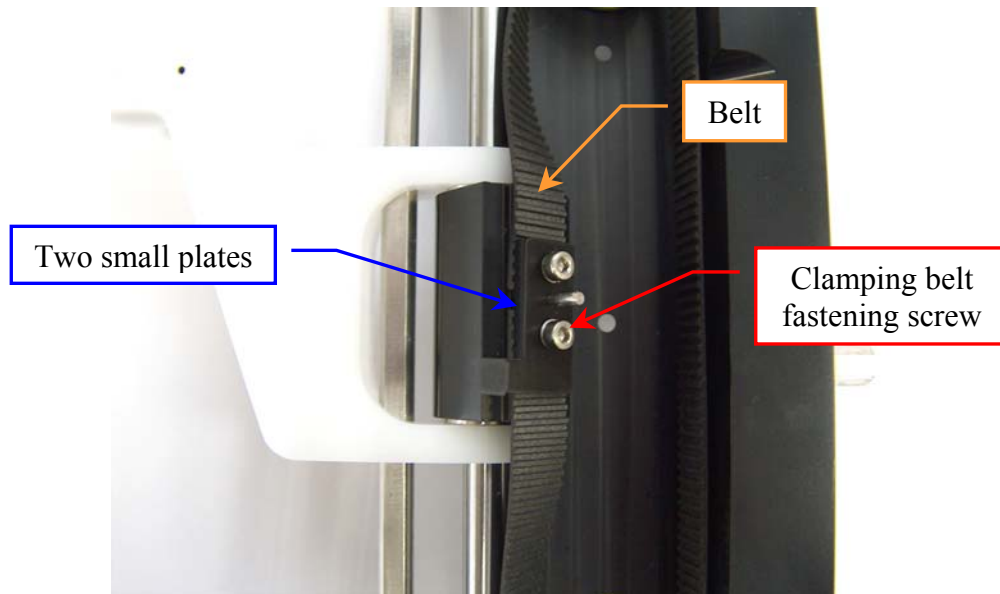

Fig. 29 –Vertical Sampling Arm Belt
5. Unscrew the two clamping belt fastening screw, remove the two small plates (Fig. 29), take off the belt to the Sampling Arm, then substitute it with the new one.